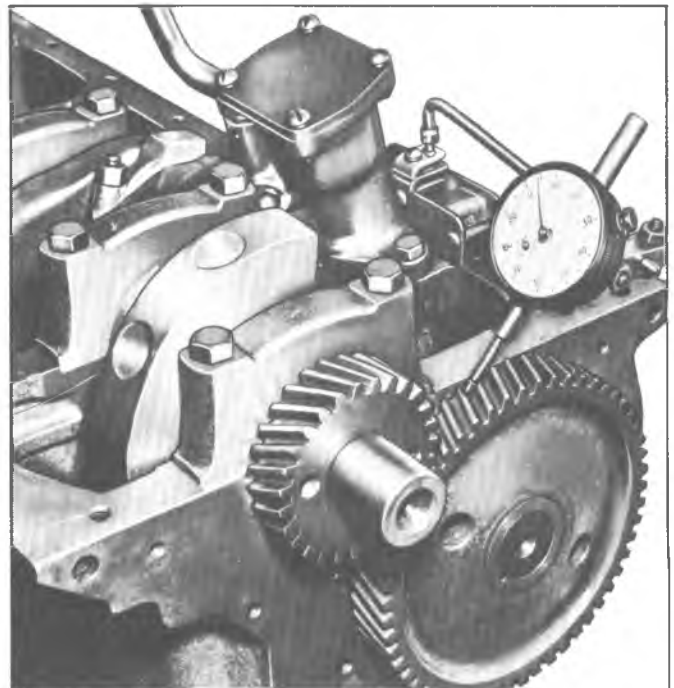

Fig. 9—Checking Timing Gear Backlash
- c. Check the backlash between the timing gear teeth with a dial indicator (fig. 9). The backlash should be not less than .004" nor more than .006".